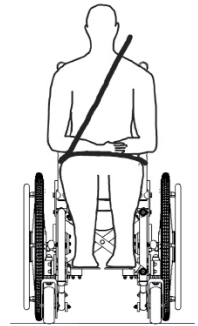

Figure 12
4. Upper torso belts **must** fit over the shoulders (see figures 12 & 13).